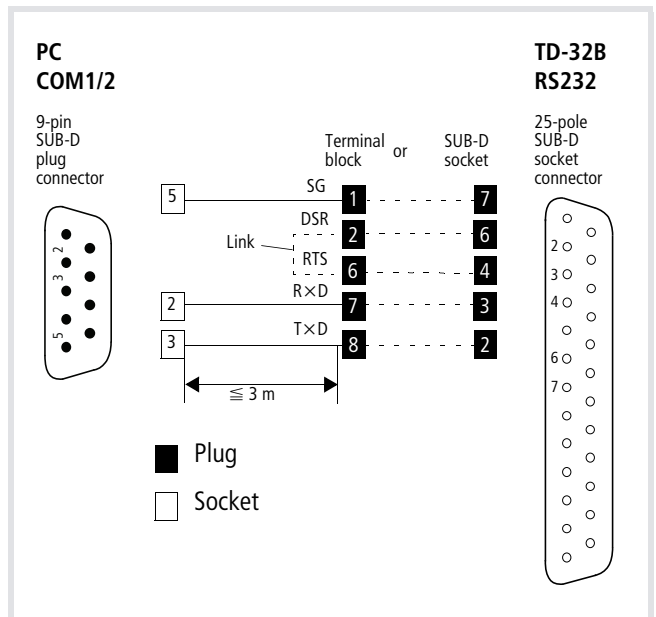
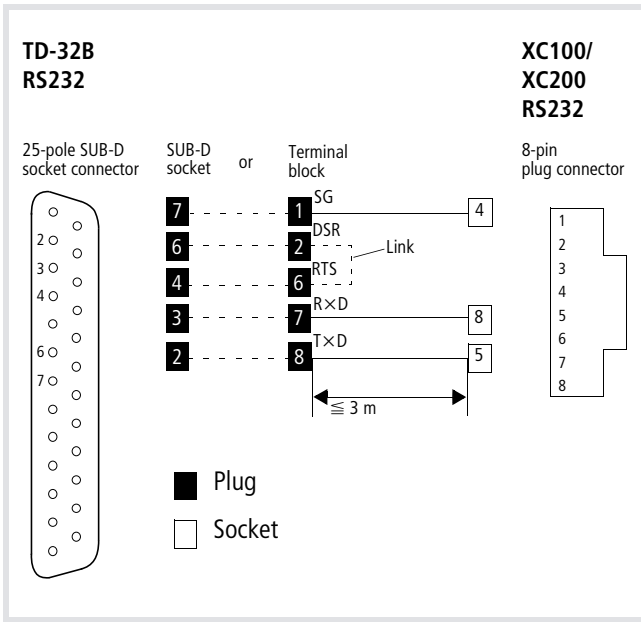

Figure 2: Physical link between PC and modem
Figure 3: Physical link between modem and XC100/XC200
- ① PC with XSoft programming system; connect the RS232 connection cable at the COM1 or COM2 interface.
- ② Connection via RS232 C; see figure 2 for the cable layout
- ③ Telephone modem: TD32B, from Messrs. Westermo; e.g. Tel.-No.: 1471
- ④ Analog telecontrol connection via leased line or dial-up line.
- ⑤ Telephone modem: TD32B, from Messrs. Westermo; e.g. Tel.-No.: 1875
- ⑥ Connection via RS232 C; see figure 3 for cable layout
- ⑦ XC100/XC200 automation system
Fig. 2 shows the necessary connection between the COM1 (2) interface on the PC and the RS232 interface on the modem. Since handshake signals are not being used, a link is required between terminals 2 and 6 on the terminal block at the top of the modem.
figure 3 shows the necessary connection between the RS232 interface on the XC100/XC200 and the RS232 interface on the modem. This connection also does not use handshake signals.